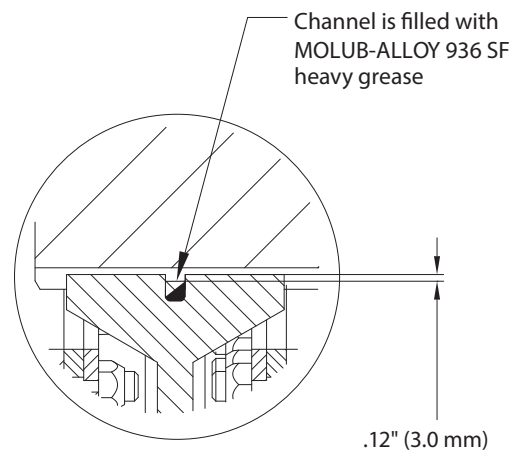

Figure 3
2.2.6 Pre-fill the grease channel in the friction disc splines (if applicable) with MOLUB-ALLOY[®] 936 SF Heavy or equivalent grease, as shown on Figure 3.